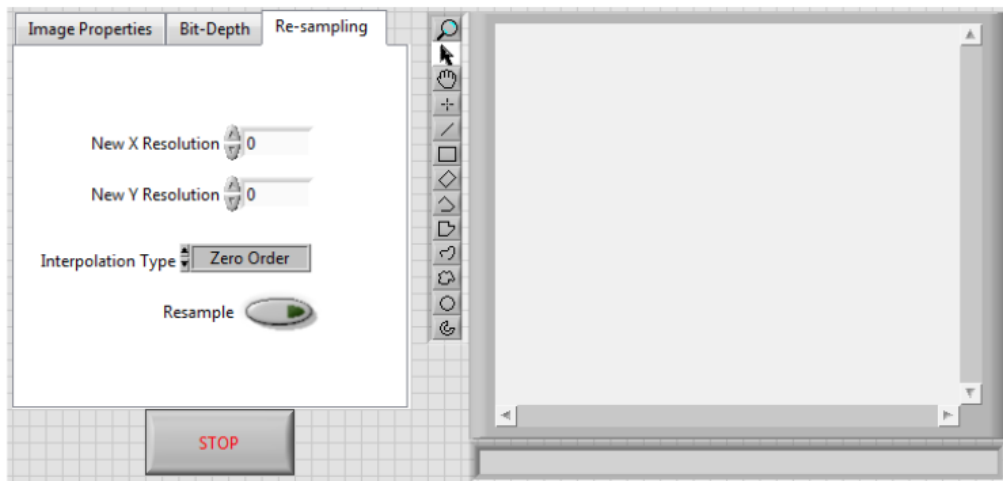
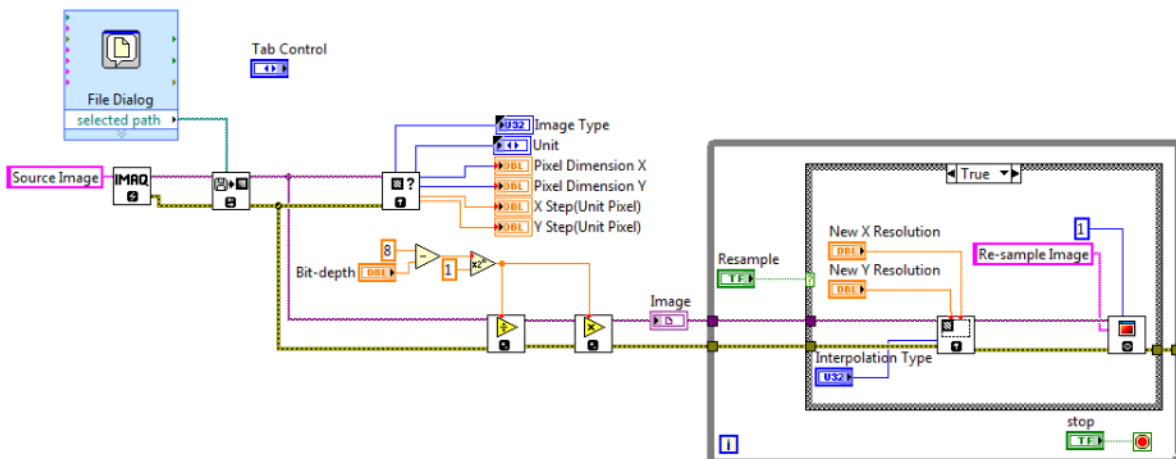

Figure 9: Front Panel of Exercise 3
Figure 10: Block Diagram of Exercise 3
1. Open **Exercise 2** and modify the **Front Panel** as shown in Figure 9 and Figure 10.
5. Modify the **Block Diagram** as shown in Figure 10 by executing the following steps.